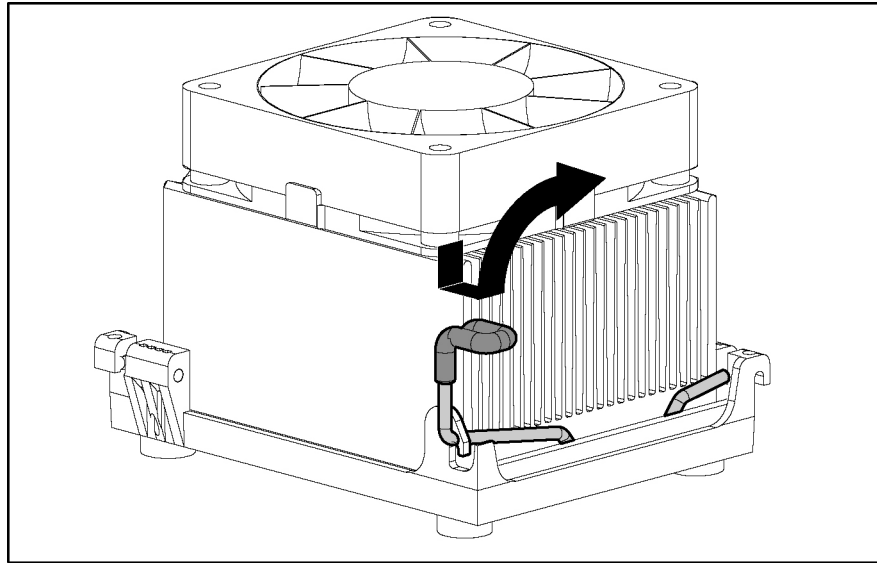

Figure 2-29: Removing the levers from the heatsink/CPU fan assembly
5. Push down on the retainer clip levers, and then pull up to remove the levers from the heatsink/CPU fan assembly. Figure 2-29 illustrates one side of the heatsink/CPU fan assembly.